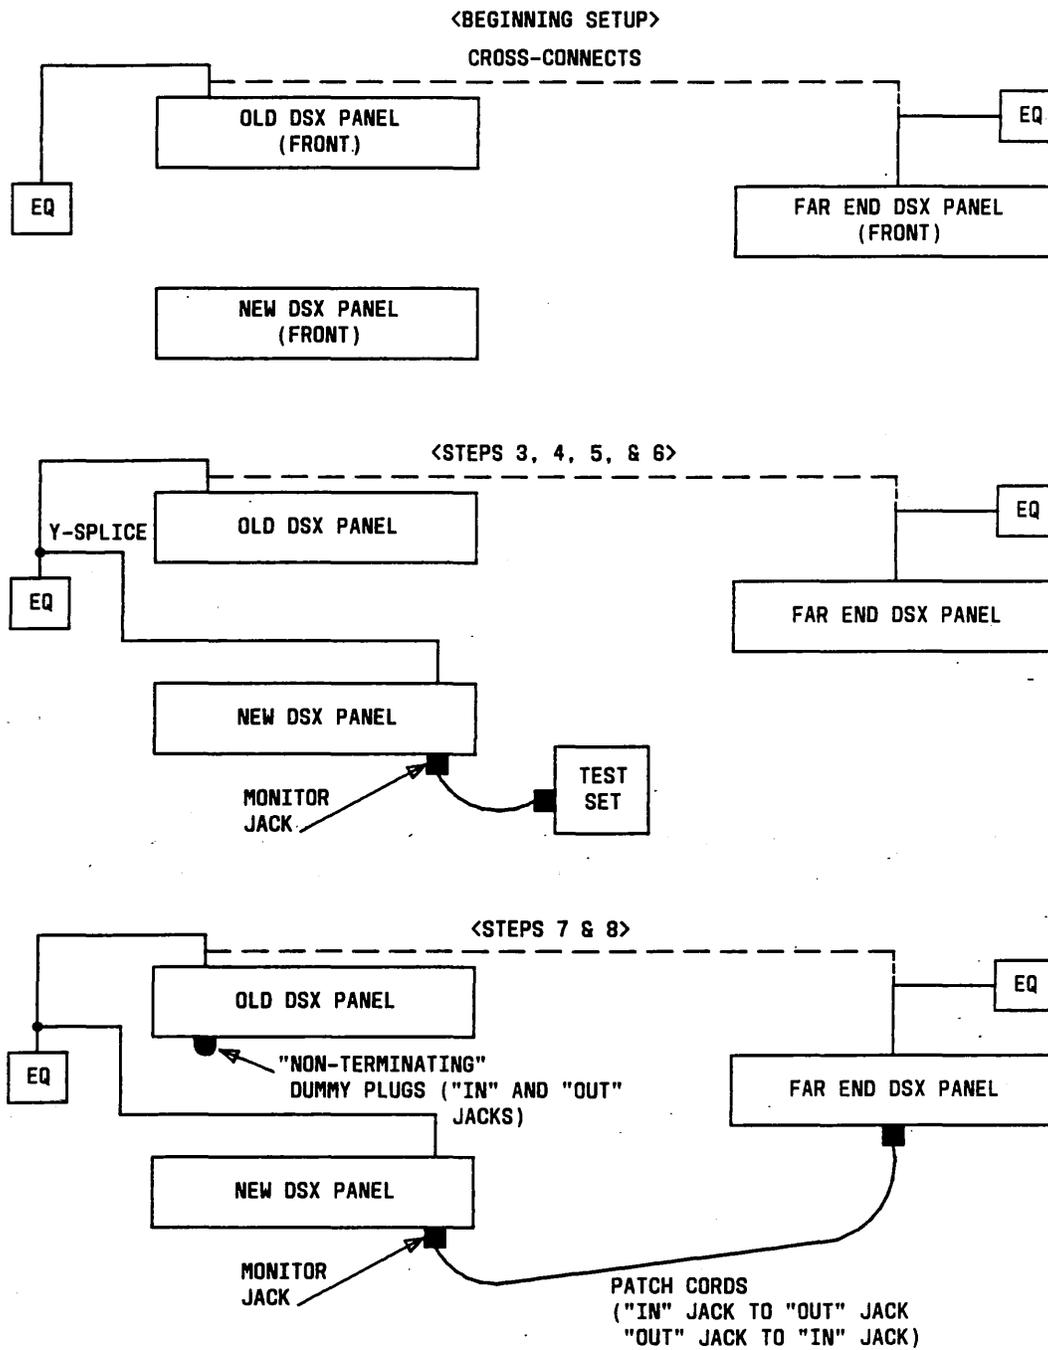

Fig. 11—Moving Working Circuits From Old Type Panels to the 800-Series DSX Panel Without Service Interruptions — Steps 1 Thru 8
4.10 The following procedure outlines the sequence of steps used to move working circuits from the old-type panels to the 800-series panels. Figure 11 and 12 depicts the DSX in various stages of the move.